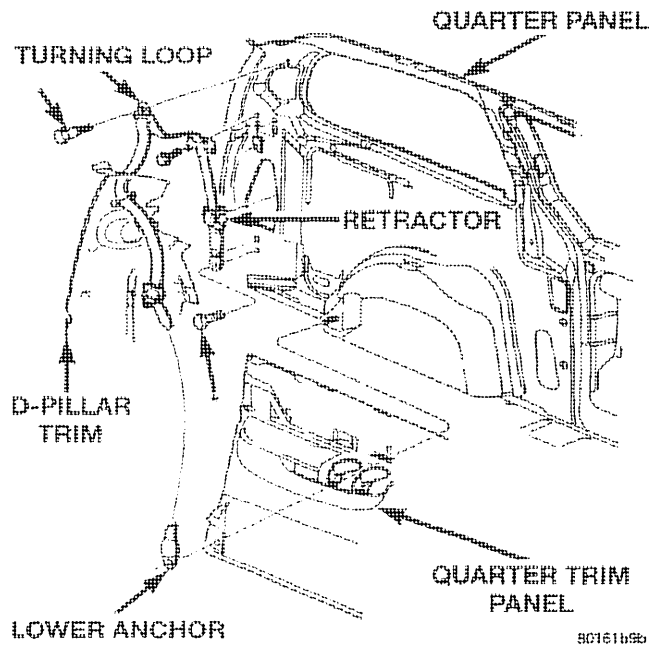

Figure 2
10. Remove the three (3) left D-pillar trim panel screws (Figure 2).
- a. Remove the seat belt guide loop bolts (Figure 2).
- b. Remove the seat belt turning loop anchor bolt (Figure 2).
- c. Remove the seat belt retractor anchor bolt and then remove the seat belt assembly from the vehicle (Figure 2).
- d. Install the new seat belt assembly into the D-pillar pocket (Figure 2). Tighten the retractor anchor bolt to 29 ft-lbs (39 N·m).
- e. Install the seat belt turning loop anchor bolt (Figure 2). Tighten the turning loop anchor bolt to 29 ft-lbs (39 N·m).
- f. Install the seat belt guide loop onto the D-pillar (Figure 2). Tighten the guide loop bolts to 29 ft-lbs (39 N·m).
26. Remove the two (2) right D-pillar trim panel screws (Figure 2).